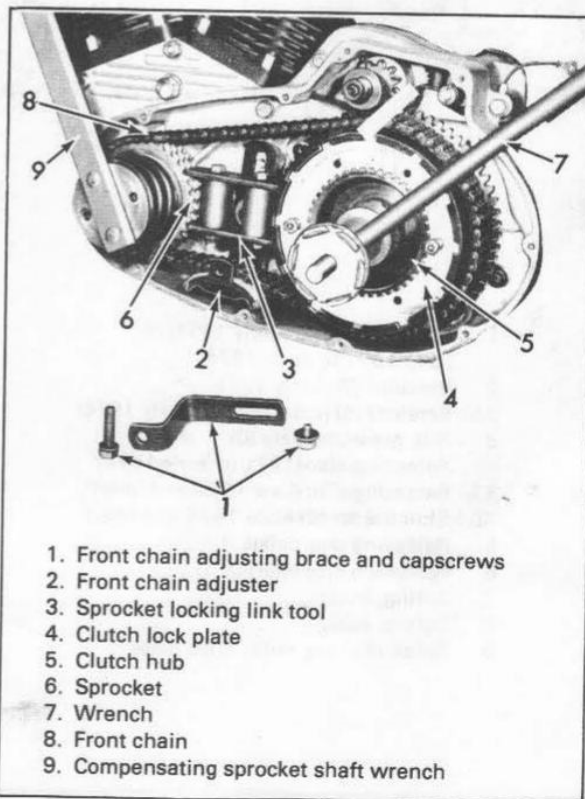
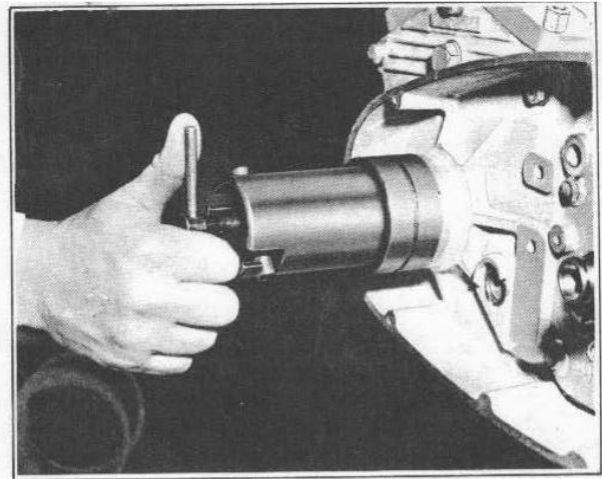

Figure 4-11. Removing and Installing Clutch Hub Nut and Compensating Sprocket Nut
Figure 4-13. Removing Sprocket
See Figure 4-11. Remove front chain adjuster brace and three front chain adjuster capscrews (1). This will leave the chain adjuster (2) loose behind the front chain. Install Sprocket Locking Link Tool (3), Part No. 97200-55, between engine sprocket teeth and clutch sprocket teeth to prevent clutch and compensating sprocket from turning.
Insert Clutch Lock Plate (4), Part No. 97173-71, between clutch hub (5) and sprocket (6) as shown in Figure 4-11. Bend ears of lockwasher (15, Figure 4-9) away from hub nut. Remove clutch hub nut (14), using Wrench (7), Part No. 94647-52 (see Figure 4-11).
Using Compensating Sprocket Shaft Wrench (9, Figure 4-11), Part No. 94557-55, remove shaft nut as shown in Figure 4-11, and in one move, free clutch shell, front chain and engine sprocket.
Install clutch hub on clutch gear splines. Install Lock Plate, Part No. 97173-71, and Sprocket Locking Link Tool, Part No. 97200-55, as shown in Figure 4-11.
Install a new lockwasher (15) over clutch gear splines and install hub nut (14) using Wrench, Part No. 94647-52, as shown in Figure 4-11. Follow up hand tightening by striking wrench handle with a soft mallet to securely seat nut to at least 150 ft-lbs torque. Bend ear of washer (15) against hex head of hub nut. Clutch hub must run free on shaft after tightening.
Loosen clutch sprocket and front chain as described in "DISASSEMBLING CLUTCH." Then remove compensating sprocket shaft nut (1), using Shaft Nut Wrench, Part No. 94557-55, as shown in Figure 4-11. Remove spring (2), sliding cam sleeve (3), sliding cam (4), sprocket (5), front chain and clutch shell together. Use Sprocket Shaft Extension Puller, Part No. 96015-56, to remove extension (6) from sprocket shaft if necessary (see Figure 4-13).
Install sliding cam (4) on extension (6), being very careful to correctly match like splines to ensure free movement of cam on extension. Assemble parts (3, 2 and 1). Tighten sprocket shaft nut (1) securely, using Compensating Sprocket Shaft Wrench, Part No. 94557-55. (See item 9, Figure 4-11).